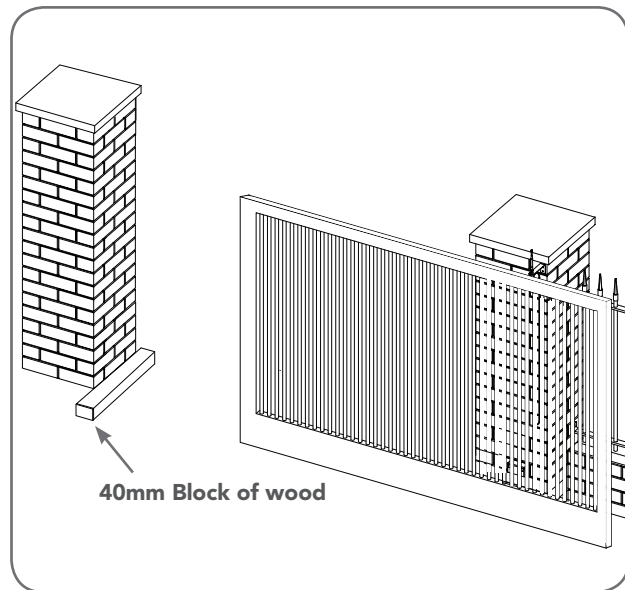

Fig 9.1
2. Place a piece of timber approximately 40mm wide on the ground directly next to the closing pylon / fence (**Fig. 9.1**).